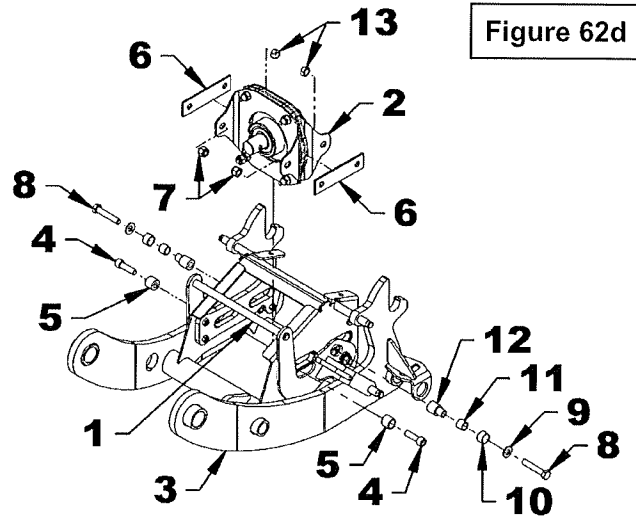
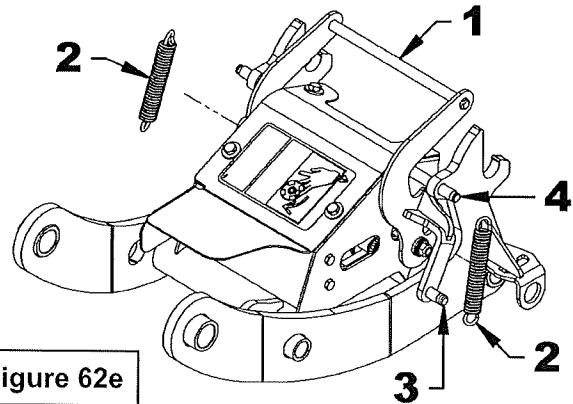

Figure 62d
Figure 62e
4. **Figure 62d:** Place the engagement lever (item 1) backwards as shown in the figure.
5. **Figure 62d:** Insert the two 3/8"NC x 1 1/4" allen socket head cap screws. (item 4) inside the  $\varnothing$ 3/4" ext. x 5/8" lg fixed bushings (item 5).
**IMPORTANT:** The head of the screws must not protrude from the bushings (item 5).
6. **Figure 62d:** Secure the back of the connection support (item 2) using the two 3/8"NC x 1 1/4" lg.allen cylindric head screws (item 4), two  $\varnothing$ 3/4"ext. x 5/8" lg. fixed bushings (item 5), two 2-hole spacers (item 6) and two 3/8"NC nylon insert locknuts (item 7).
7. **Figure 62d:** Insert the two plastic bushings  $\varnothing$ 5/8" ext. X  $\varnothing$ 1/2" int. x 1/2" lg (item 11) inside the two  $\varnothing$ 3/4" ext. x 15/32" lg pivot bushings (item 10).
8. **Figure 62d:** Attach the front of the connection support (item 2) using the two 3/8"NC x 2" hex bolts (item 8), two 10mm flat washers (item 9), two  $\varnothing$ 3/4" ext. x 15/32" lg pivot bushings (item 10), two  $\varnothing$ 5/8" ext. x  $\varnothing$ 1/2" int. x 1/2" lg plastic bushings (item 11), two  $\varnothing$ 3/4" ext. x 1 1/4" lg pivot bushings (item 12), two 2-hole spacers (item 6) and two 3/8"NC stover locknuts (item 13).
**IMPORTANT:** During assembly, make sure to insert the two  $\varnothing$ 3/4" ext. x 1 1/4" lg pivot bushings (item 12) in the oblong holes of the engagement lever (item 1).
9. **Figure 62e:** Position the engagement lever (item 1) as to be in the position as shown. Install the two 3/4" x 4 1/2" lg springs (items 1) on the pins of the 4pt hitch (item 2) and of the engagement lever (item 3).